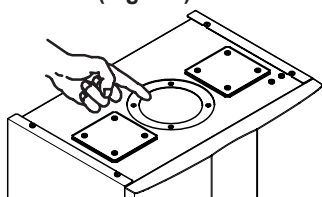

Fig. 7.7
**Fill the built in condensate trap by removing the flue elbow and pouring a cupful of water into the flue outlet (Fig. 7.7).**